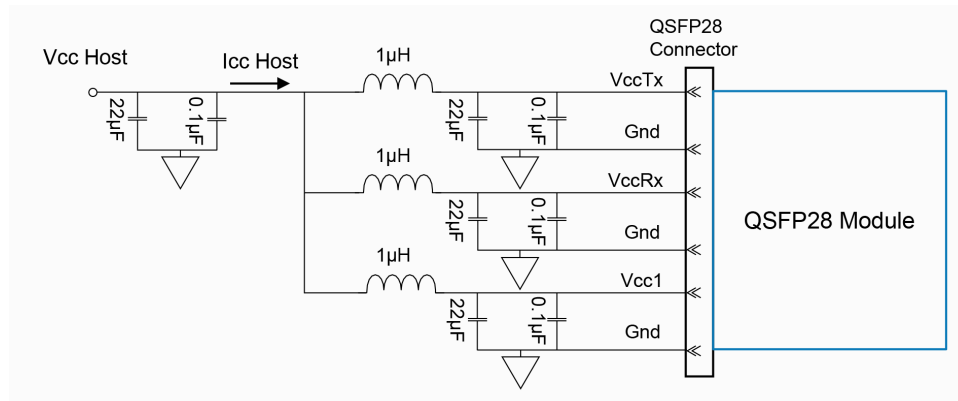

Figure 3. Recommended Power Supply Filter
- VccRx, Vcc1 and VccTx are the receiving and transmission power suppliers and shall be applied concurrently. Recommended host board power supply filtering is shown in Figure 3 below. Vcc Rx, Vcc1 and Vcc Tx may be internally connected within the module in any combination. The connector pins are each rated for a maximum current of 1000mA.